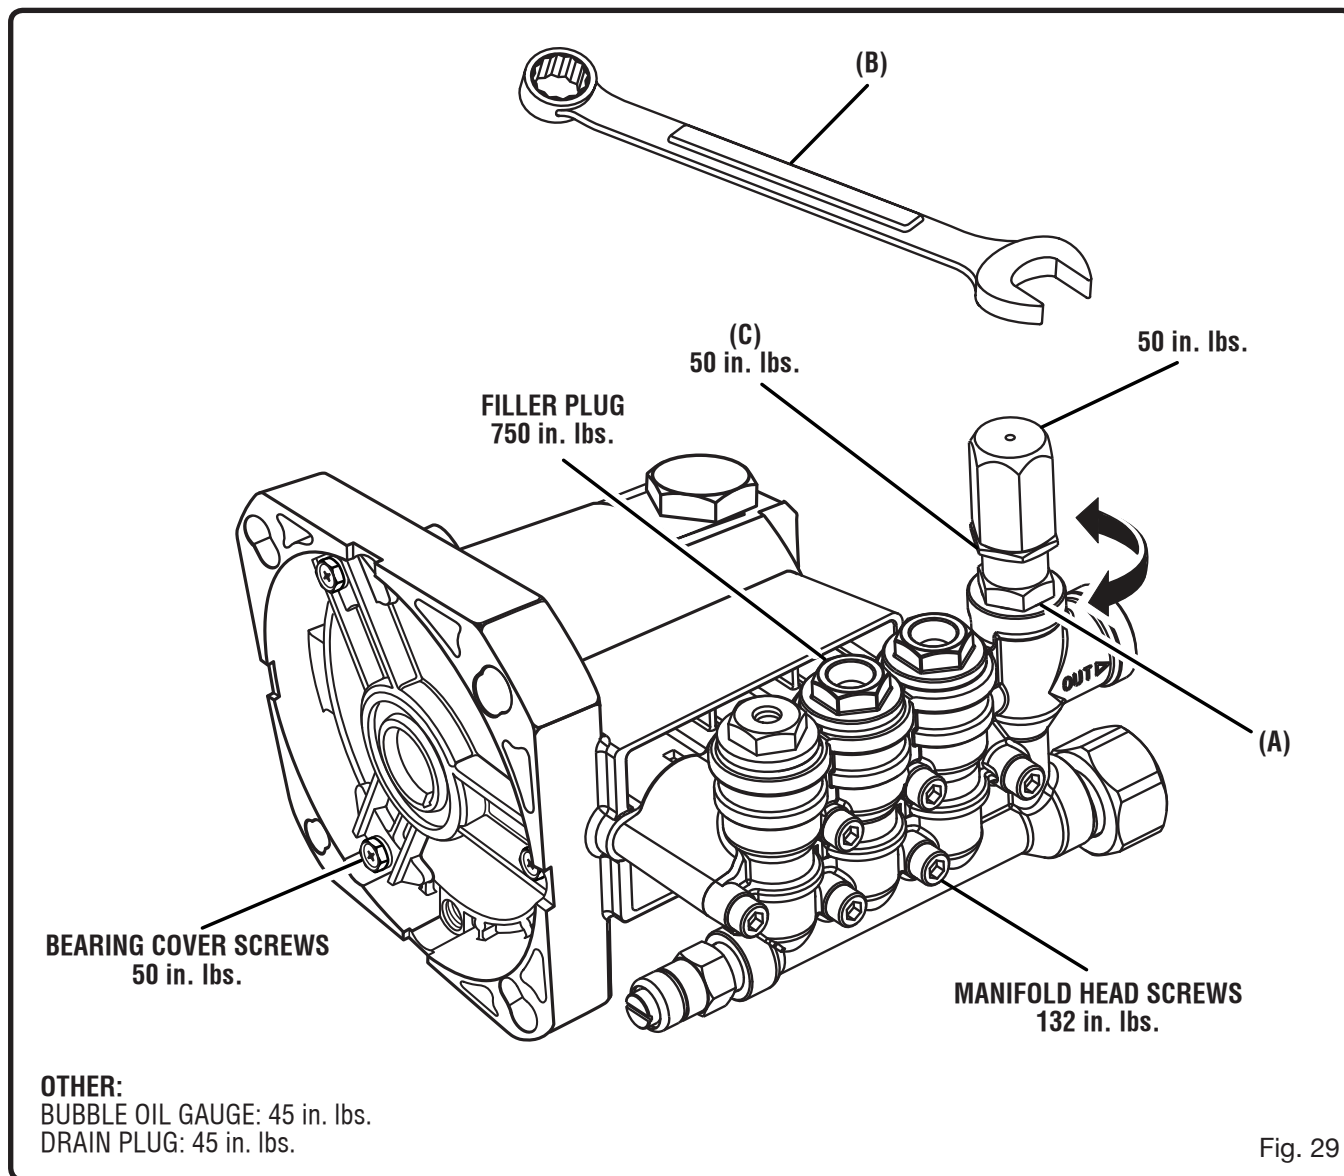

Fig. 29
2. Examine the seal (D) and o-ring (C) for cuts and deterioration and replace as needed.
3. Lubricate and install new seal (D) and o-ring (C) to the bearing cover (A).
4. Reattach the bearing cover (A) to the crankcase. *See figure 29, page 26 for torque spec.*
- If the bypass pressure is lower than the model listed in the spec charts below, loosen locking nut on the unloader adjustment while holding the unloader nut in place (see Fig 29). If the pressure is over the aoutn specified in the spec chart, adjust the unloader lower by turning it counter clockwise.
- Hold the unloader (A) with a 7/8 in. wrench (B), turn the locking nut (C) down to the unloader and tighten the locking nut using torque setting as shown. Mark the nut and cap with a paint dot to indicate if the customer has adjusted the unloader at a later time. (See Figure 29.)